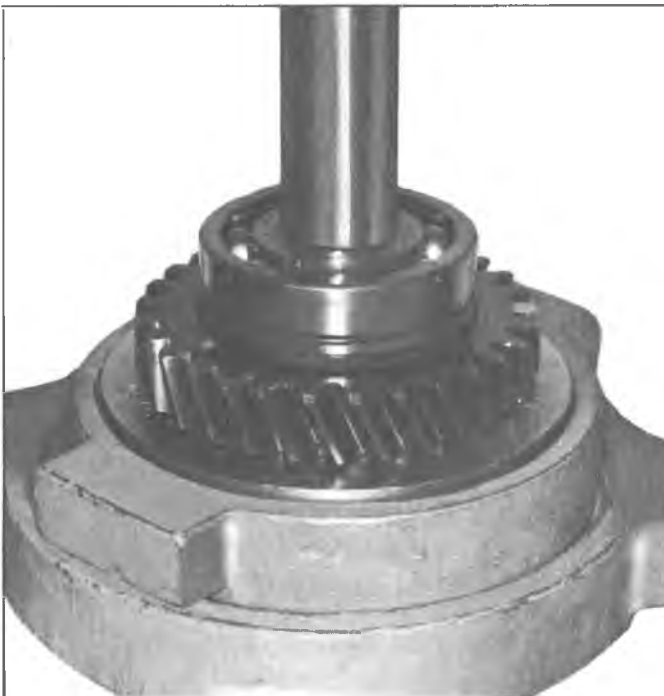

Fig. 9X--Removing Rear Bearing and First Speed Gear
4. Support first gear with press plates and press on rear of mainshaft to remove first gear, thrust washer, spring washer, and rear bearing from rear of mainshaft (fig. 9X).